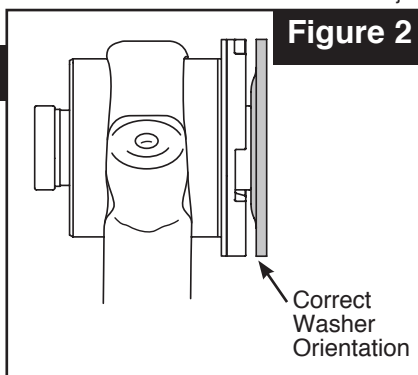

Figure 2
7. Remove nut and washer from arm-to-frame mounting bolt and remove bolt and arm. Discard both OE washers. Place one supplied offset washer onto head of arm-to-frame bolt. When installed, offset washer flange should be facing away from bushing flange, see **Figure 2**.